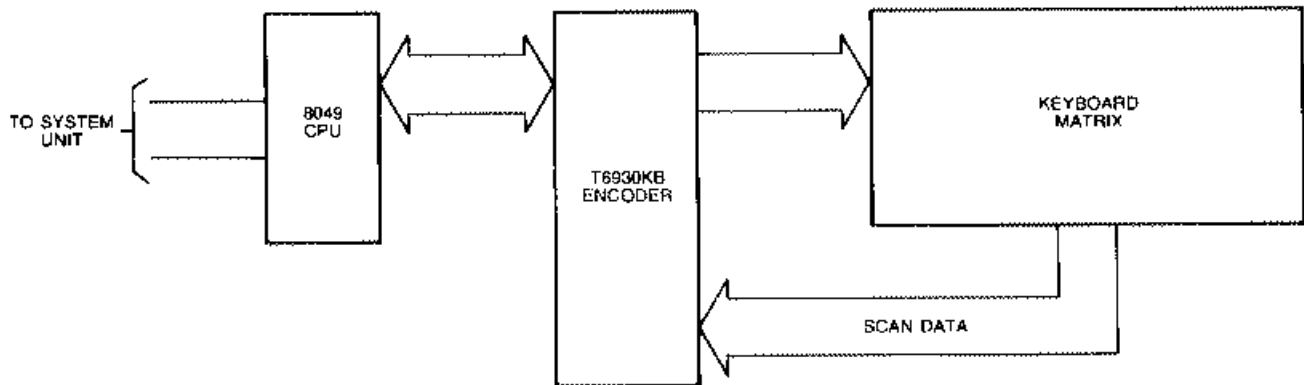

FIGURE 2-102. KEYBOARD BLOCK DIAGRAM
2.7 KEYBOARD OPERATION (Figures 2-102 and 2-103)